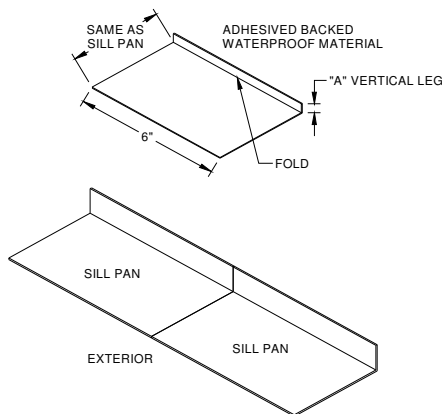

Figure 12:
- Cut a piece of adhesive backed waterproof material to fit the joint as specified in Figure 12, $A=1/4"$. Select waterproofing material that is compatible for your application. Waterproofing material must have an adhesive backing and be capable of withstanding the temperature ranges for your region (Figure 13).